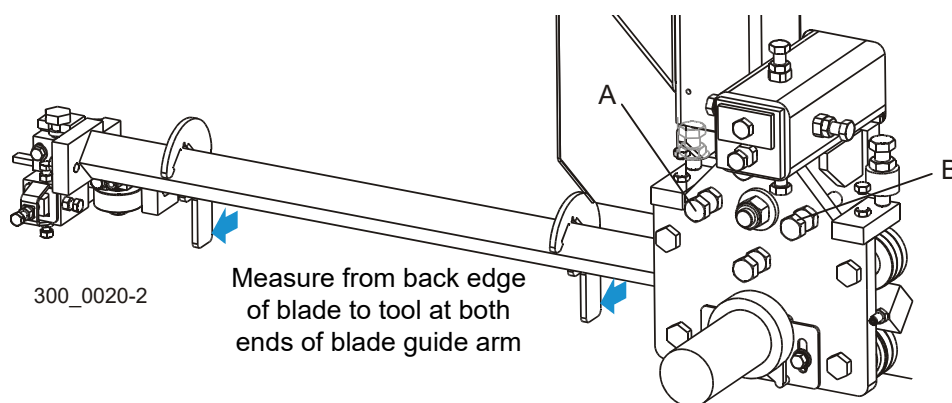

FIG. 6-13
See Figure 6-13. Attach the blade guide arm alignment tool to the blade guide arm, near the outer blade housing. Measure the distance from the back edge of the blade to the tool. Move the tool to the end of the arm near the blade guide. Measure again from the back edge of the blade to the tool. The two measurements at each end of the arm should be the same within $1/32$ ". To adjust the horizontal tilt of the arm parallel to the blade, adjust the bolts (A & B) on the blade guide arm mounting plate. Loosen the jam nuts. Adjust bolt (A) out and bolt (B) in to move the arm away from the blade. Adjust bolt (B) out and bolt (A) in to move the arm toward the blade. Recheck the distance from the back edge of the blade to the tool at both ends of the arm. Readjust if necessary. Tighten the jam nuts.